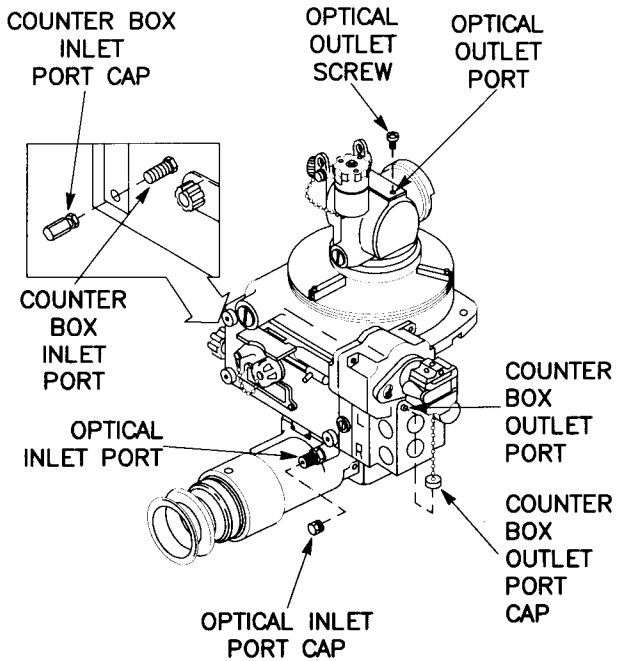

Figure 3-72 M115 Panoramic Telescope
d. Panoramic Telescope, M115 (fig. 3-72).
(1) Counter Box Assembly.